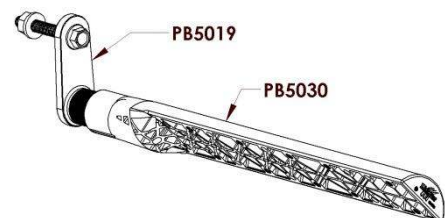

Figure 7
- B. Insert the paddle bracket (PB5030) onto a swivel bracket (PB5019) as shown in Figure 7.